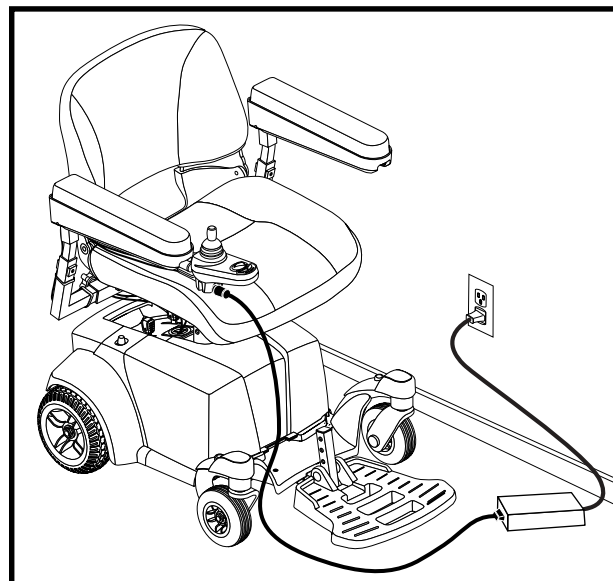

Figure 15. Battery Charging
1. Position your power chair next to a standard electrical outlet. See figure 15.
3. Plug the off-board charger into the off-board charger socket on the controller. See figure 15.
4. Plug the off-board charger into the electrical outlet. See figure 15.